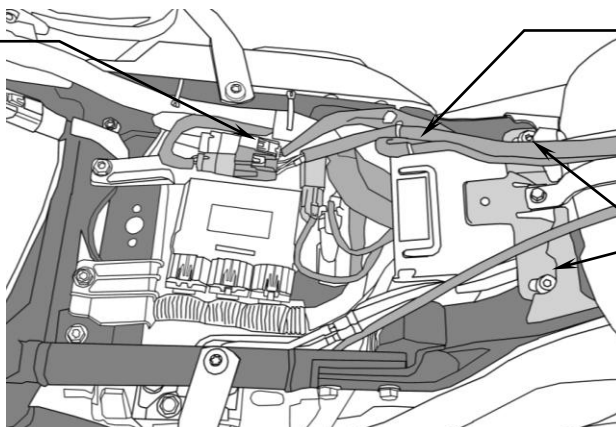

FIGURE 1
3. Disconnect two electrical connectors and vacuum line on the upper left side of frame behind rear of fuel tank and remove the two bolts securing rear of fuel tank. Pull the vacuum line running down right side of frame upward so it can be removed with tank, see Figure 1. Disconnect the dry-break fuel line from the bottom of the fuel tank by pulling the outer ring upward and then the fuel line / fitting downward. At the front of the fuel tank remove the rubber covers which are installed on the fuel tank's front bolts. With help, remove the bolts and then the entire fuel tank from the motorcycle, set in a secure area to prevent any damage to the tank.